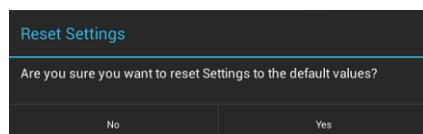

FIG. 112 Reset Settings prompt window
- The panel will prompt you to verify this action (FIG. 112):.